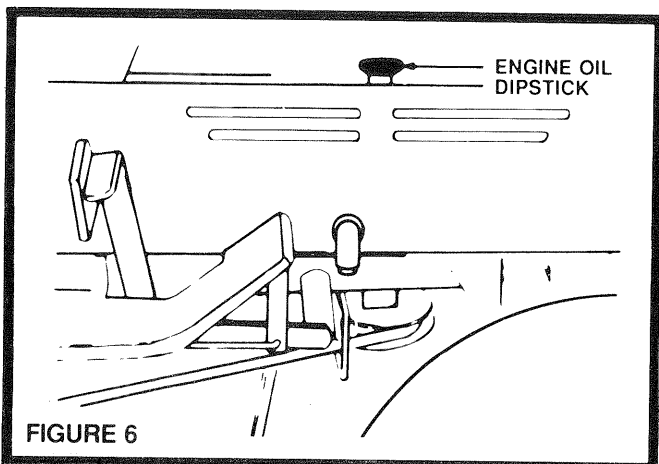

FIGURE 6
1. Your engine has been shipped with summer weight oil. For cold weather operation, see chart below. Check Engine Oil Level with Tractor on level ground. Remove and wipe Dipstick (Fig. 6) clean, screw it in tight for a few seconds, remove and read Oil level. If necessary, add Oil until "FULL" mark is reached.